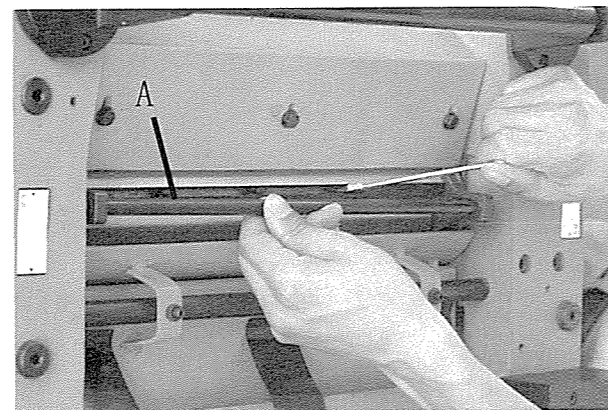
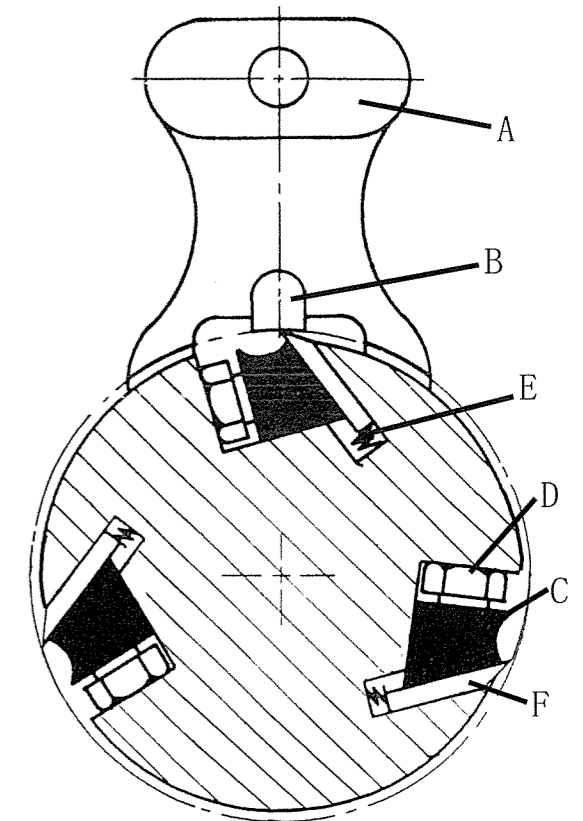

Fig. 18
Fig. 19
3. To check and adjust knives use the knife gage (A) Fig.18 and check all three knives. Knives should just contact the bottom of the center protrusion (B) of the knife gage, as shown in Fig.19.
4. If an adjustment to one or more of the knives is necessary, slightly loosen the knife locking bars (C) Fig.19 of all three knives by turning the 15 locking screws (D) Fig.19 into the knife locking bars just enough to relieve stress in the cutterhead and not disturb the setting of the knives.
5. Using the knife gage adjust the knife, that must be reset by loosening all five locking screws (D) Fig.19, by turning them into the knife locking bar. As the knife locking bar becomes loose, lifter springs (E) located under the knife will raise the knife until it comes into contact with the center protrusion (B) of the gage (A) Fig.19. Then snug up the knife locking bar by lightly backing out the five locking screws (D) against the slot.
7. After all three knives are set with screws just snug, back out and tighten the five screws (D) Fig.19 against the slot, starting with the end screws first, then the center screws until the knife securely held in the cutterhead.
3. To remove knife, loosen the knife locking bar (C) Fig.19, by turning the five knife locking screws (D) into the knife locking bar (C) and remove the knife locking (C), knife (F) and springs (E) located the knives. Please take note: the inner two springs will pop out when removing the knife and knife locking bar.
6. Inspect the cutting edge of the knives for nicks or wire edge. Hone the knives slightly using a stone if the knives are to be sharpened, maintain a cutting angle of 35 degrees as shown in Fig.19.
7. Insert springs (E), knives (F), and knife locking bar (C) into slot of the cutterhead, as shown in Fig.19. Back out locking screws (D) just enough to hold the knife in the cutterhead.
8. Place the knife gage (A) over the knife as shown in Fig.19.
9. While holding down on the knife gage (A) Fig.19, loosen all five locking screws (D) by turning them into the locking bar (C) until cutting edge of knife (F) comes into contact with the protrusion (B) of gage (A). Then snug up the knife locking bar (C) by slightly backing out the five screws (D) against the slot.
11. After all three knives are set with the screws just snug, back out and tighten the five screws (D) Fig.19, against the slot starting with the end screws first and then the center screws until the knife is securely held in the cutterhead. Tighten the remaining two knives in the same manner.